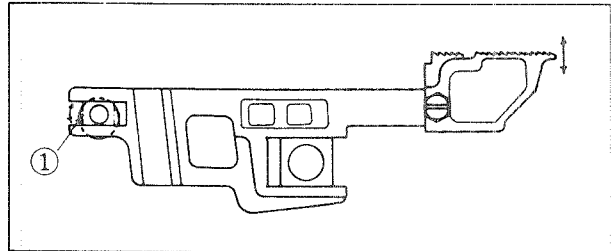

Fig. 12-1
(3) Feed dog slant (Fig. 12-1)